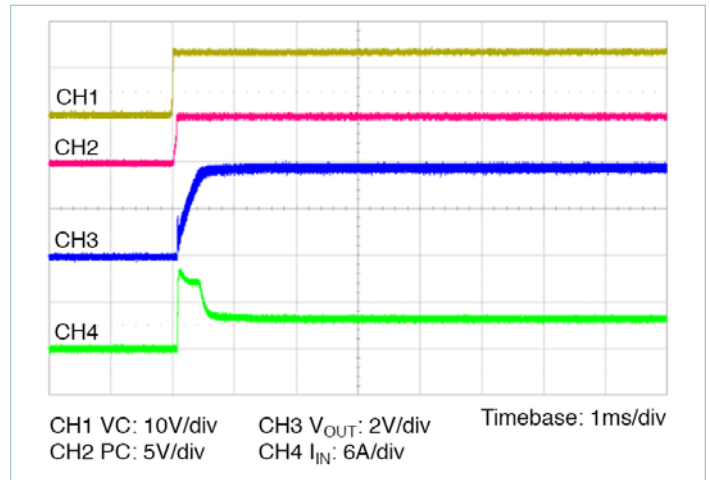

Figure 14 — Start up from application of VC; V_{IN} pre-applied $C_{OUT} = 9100\mu\text{F}$
- **Stand-alone operation (VC applied after V_{IN}):** In this case the VTM output will begin to rise upon the application of the VC voltage (See Figure 14). The Adaptive Soft-Start Circuit may vary the output rate of rise in order to limit the inrush current to its maximum level. When starting into high capacitance or a short, the output current will be limited for a maximum of 1200 μ s. After this period, the Adaptive Soft-Start Circuit will time out and the VTM module may shut down. No restart will be attempted until VC is re-applied or PC is toggled. The maximum output capacitance is limited to 9100 μ F in this mode of operation to ensure a successful start.